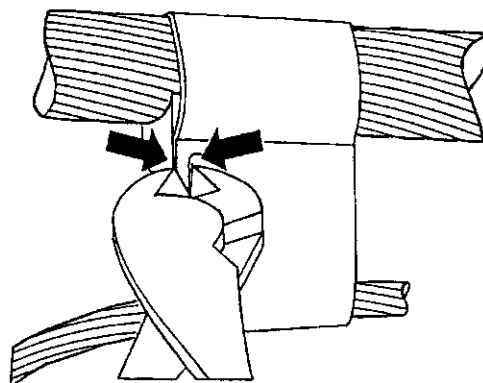

Figure 7
1. Cut through material outside of inspection window on "C" member, as shown in Figure 7.